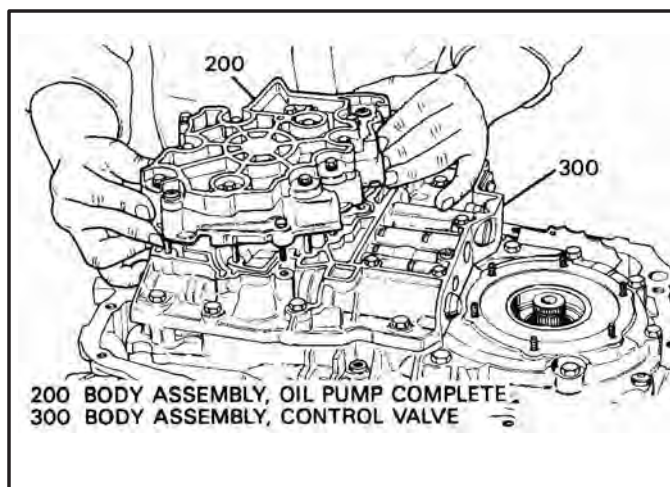

Figure 49
17. Remove the oil pump assembly from transaxle, as shown in Figure 49, and set aside for the component rebuild process.